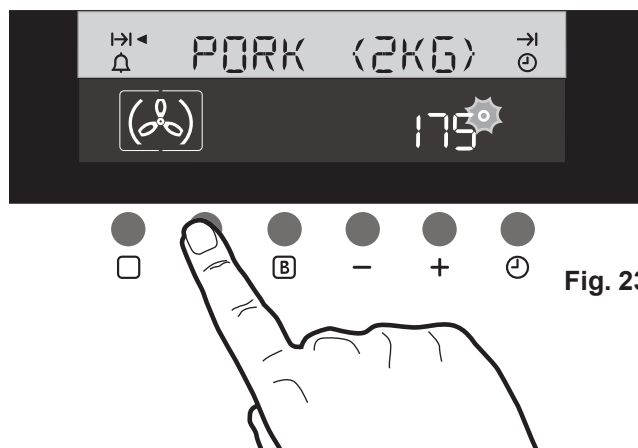

Fig. 23
2. Press the "Recipe Selection Function" button **📖** : the upper section of the display will show the name of the recipe, and symbol **◀** will come on near the "Cooking Duration" symbol **⌂**. This means that a cooking duration is already set in the memory. The lower section will show the symbol of the pre-set cooking function and the pre-set cooking temperature. Symbol **●** will flash at the right hand of the temperature display. (Fig. 23);